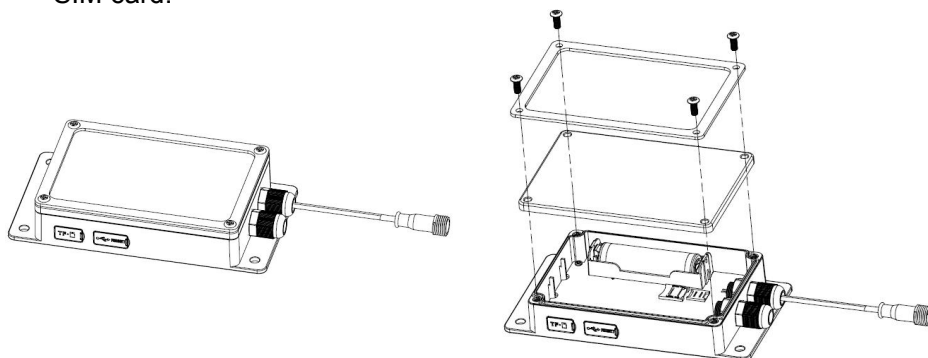
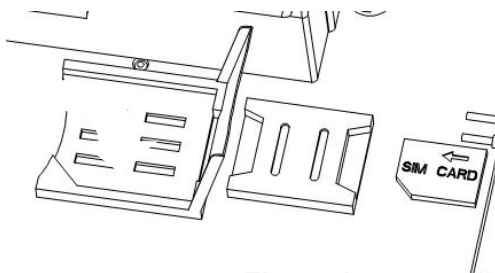

Figure 12
Figure 13
1. Before power on the device, please open the case (Figure 12) and use a 3G SIM card to install in one of the SIM card slots. (Figure 13). The Bigger slot is for micro SIM card and the other is for Nano SIM card.
Nano SIM card slot: Insert the sim card into slot directly as shown in Figure 13.